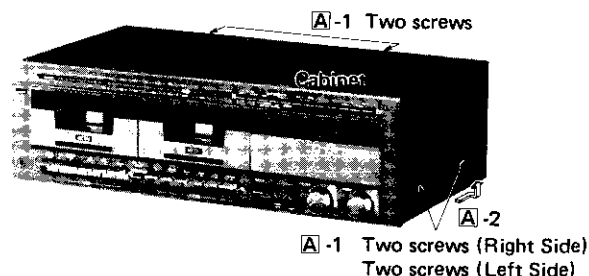

Figure 4-1
1. Remove six screws from the cabinet (two each at right, left and back surfaces). See Fig. 4-1.
2. Slide the cabinet in the arrow direction shown in Fig. 4-1, and lift it up by giving force to its bottom, then remove.